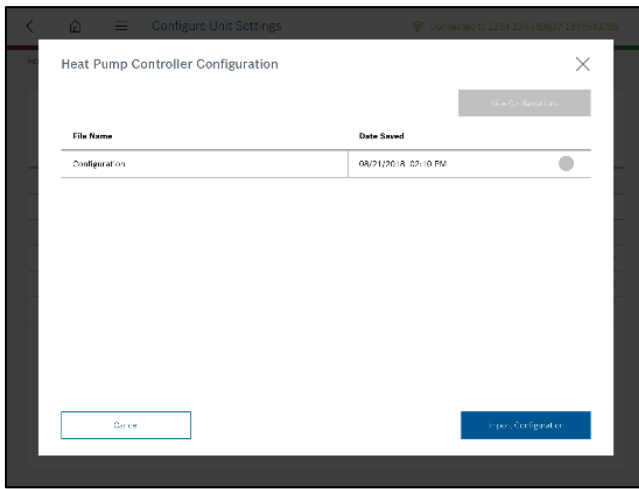

Figure 35: Configuration Files
4. It will open the page which loads list of saved configuration files available in the selected folder. See figure 35.